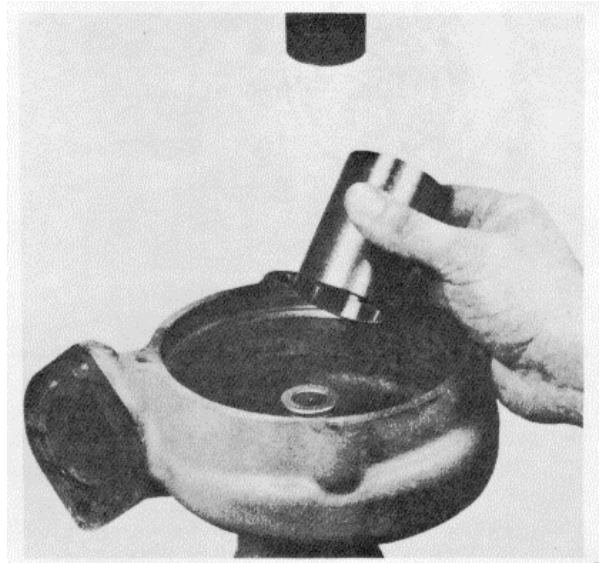

Figure 16J-11. Install the Cup Seat
8. Apply one drop of Loctite 290 to the cup seat at the shaft, Figure 16J-12.